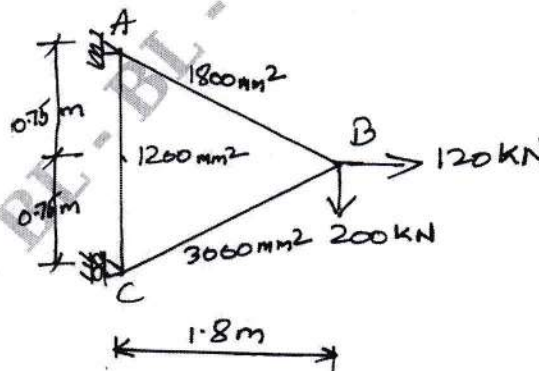

Fig.Q3
- 3 A truss is loaded as shown in Fig.Q3. The cross sectional area as indicated in figure. Find strain energy stored due to loading. Take $E = 72 \text{ GPa}$.